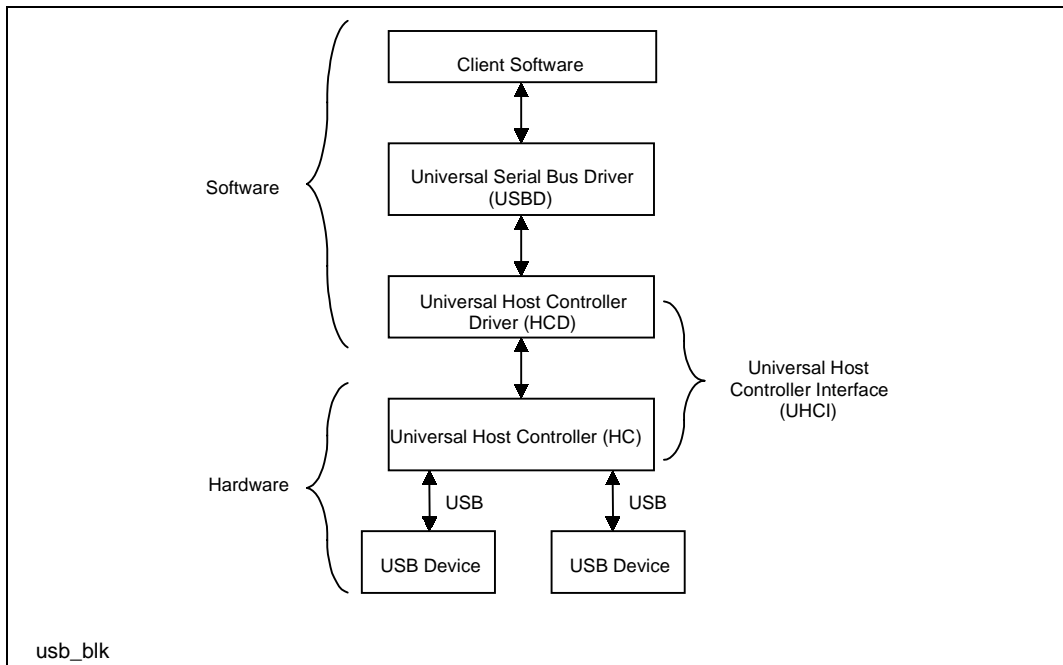

Figure 21. USB System Conceptual View
The 440MX contains a USB Host Controller (HC), which includes a root hub with two USB ports. This permits connection of two USB peripheral devices directly to the 440MX without an external hub. If more devices are required, an external hub can be connected to either of the built-in ports. The USB's PCI Configuration Registers are located in Function 2, PCI configuration space. The Host Controller completely supports the standard Universal Host Controller Interface (UHCI) and thus, takes advantage of the standard software drivers written to be compatible with UHCI. Figure 21 shows a conceptual view of a USB system. UHCI consists of two parts—Host Controller Driver (HCD) and Host Controller (HC). The Host Controller interfaces to the USB system software in the host via the HCD. The HCD software manages the Host Controller operation and is responsible for scheduling the traffic on USB by posting and maintaining transactions in system memory. HCD is part of the system software and is typically provided by the operating system vendor. HCD provides the software layer between the Host Controller and the USB software layer (also located in the operating system). The UHCI's HCD software interprets requests from the USB and builds Frame List, Transfer Descriptor, Queue Head, and data buffer data structures for the Host Controller. The data structures are built in system memory and contain all necessary information to provide end-to-end communication between client software in the host and devices on the USB.